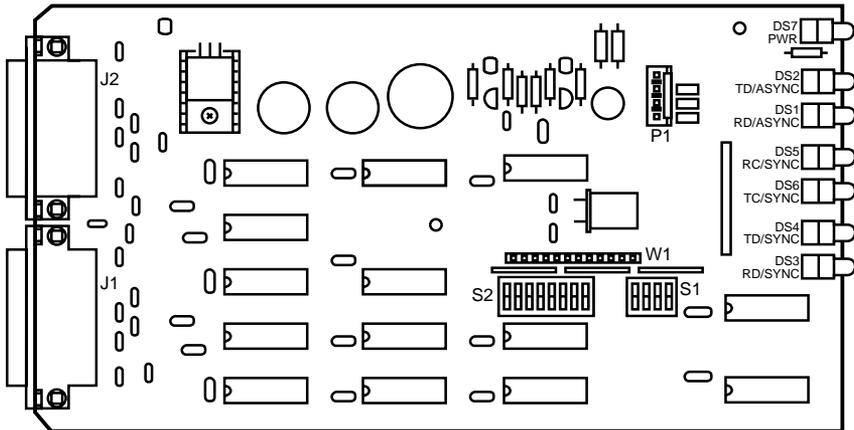

Fig. 3-1. The ASI-IV Circuit Board.
2. Set Switches S1 and S2 for your application. See Figure 3-1 for the locations of Switches S1 and S2 on the circuit board, and Tables 3-1 and 3-2 for their settings.
3. Attach the ASI-IV power supply connector to P1 (see Fig. 3-1).